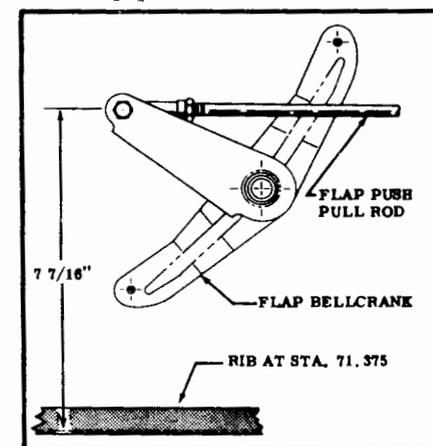

Figure 21. Flap Bellcrank Adjustment
- (2) Hold the flap in the full-up position by applying firm hand pressure upward and forward against trailing edge of flap.
- (3) Adjust the flap push-pull rod until the flap bellcrank is in the position shown in figure 21.
- (4) Release the hand pressure that was applied to the flap trailing edge in step 2 and tighten the flap-up cable turnbuckle located behind rear cabin door post until cable has a tension of 20-40 lbs.
- (5) Repeat steps 2 thru 4 for the opposite flap.
- (6) Move flap handle to the flap full-down position.
- (7) Tighten the turnbuckles of the flap-down cables until cables have a tension of 20-40 lbs.
Figures 21 to 27 inclusive outline the control systems, including control travel limits, location of control stops, and the location of turnbuckles. The use of the single wrap method using .040 monel wire for safetying turnbuckles is satisfactory and CAA approved. Rigging methods for the various systems are outlined below:
**FLAPS (See figures 21 and 22).**
- (1) Place the flap handle in the 0° flap position.